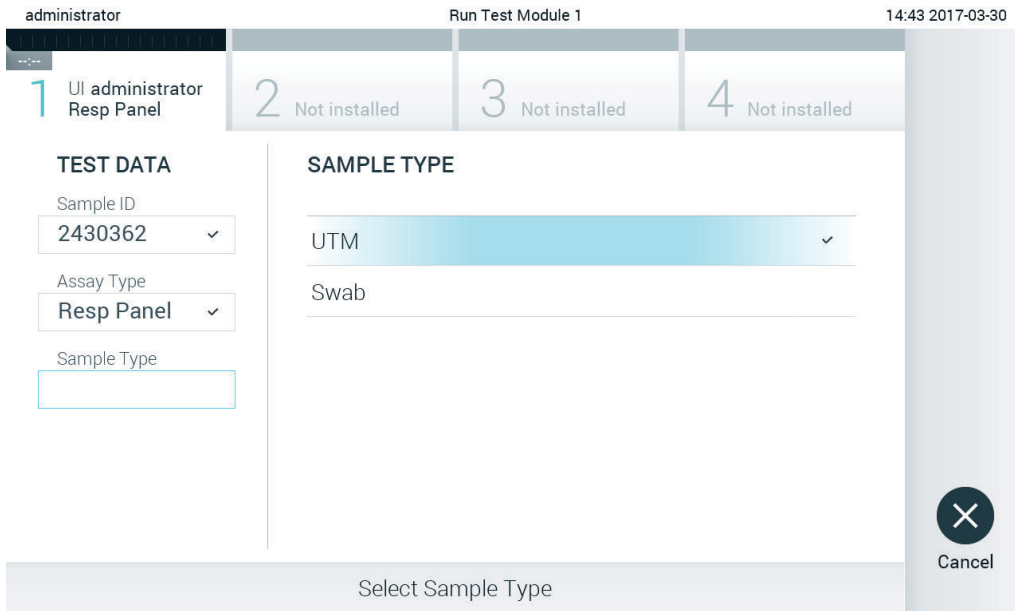

Figure 25. Selecting sample type.
- If required, select the appropriate sample type from the list (Figure 25, next page).